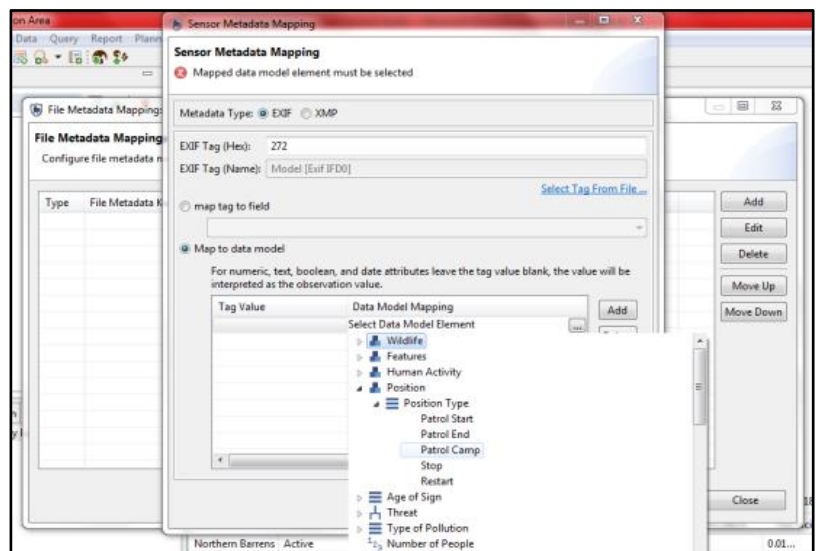

Figure 5.8: Example metadata mapping where EXIF type metadata is being mapped to a SMART data model element.
- **Map to data model:** Select if metadata is to be mapped to an observation attribute within the SMART core data model. Press **Add** to populate the Data Model Mapping column with a placeholder element. Highlight the **Select Data Model Element** placeholder and press  (appears only when selected) to open a list of SMART data model categories. Navigate to and double click the desired category. It will now be listed under the Data Model Mapping column (Tag will still be blank) (Figure 5.8). Depending on what category is being mapped to, specifying the Tag Value may or may not be required. For example, if the user is interested in mapping numerical data, such as the SMART attribute “Number of People” within the “People - direct observation” category, users only need to specify the data model element. The value of the XMP path in the image will be applied to the attribute automatically. This method also applies to text data.